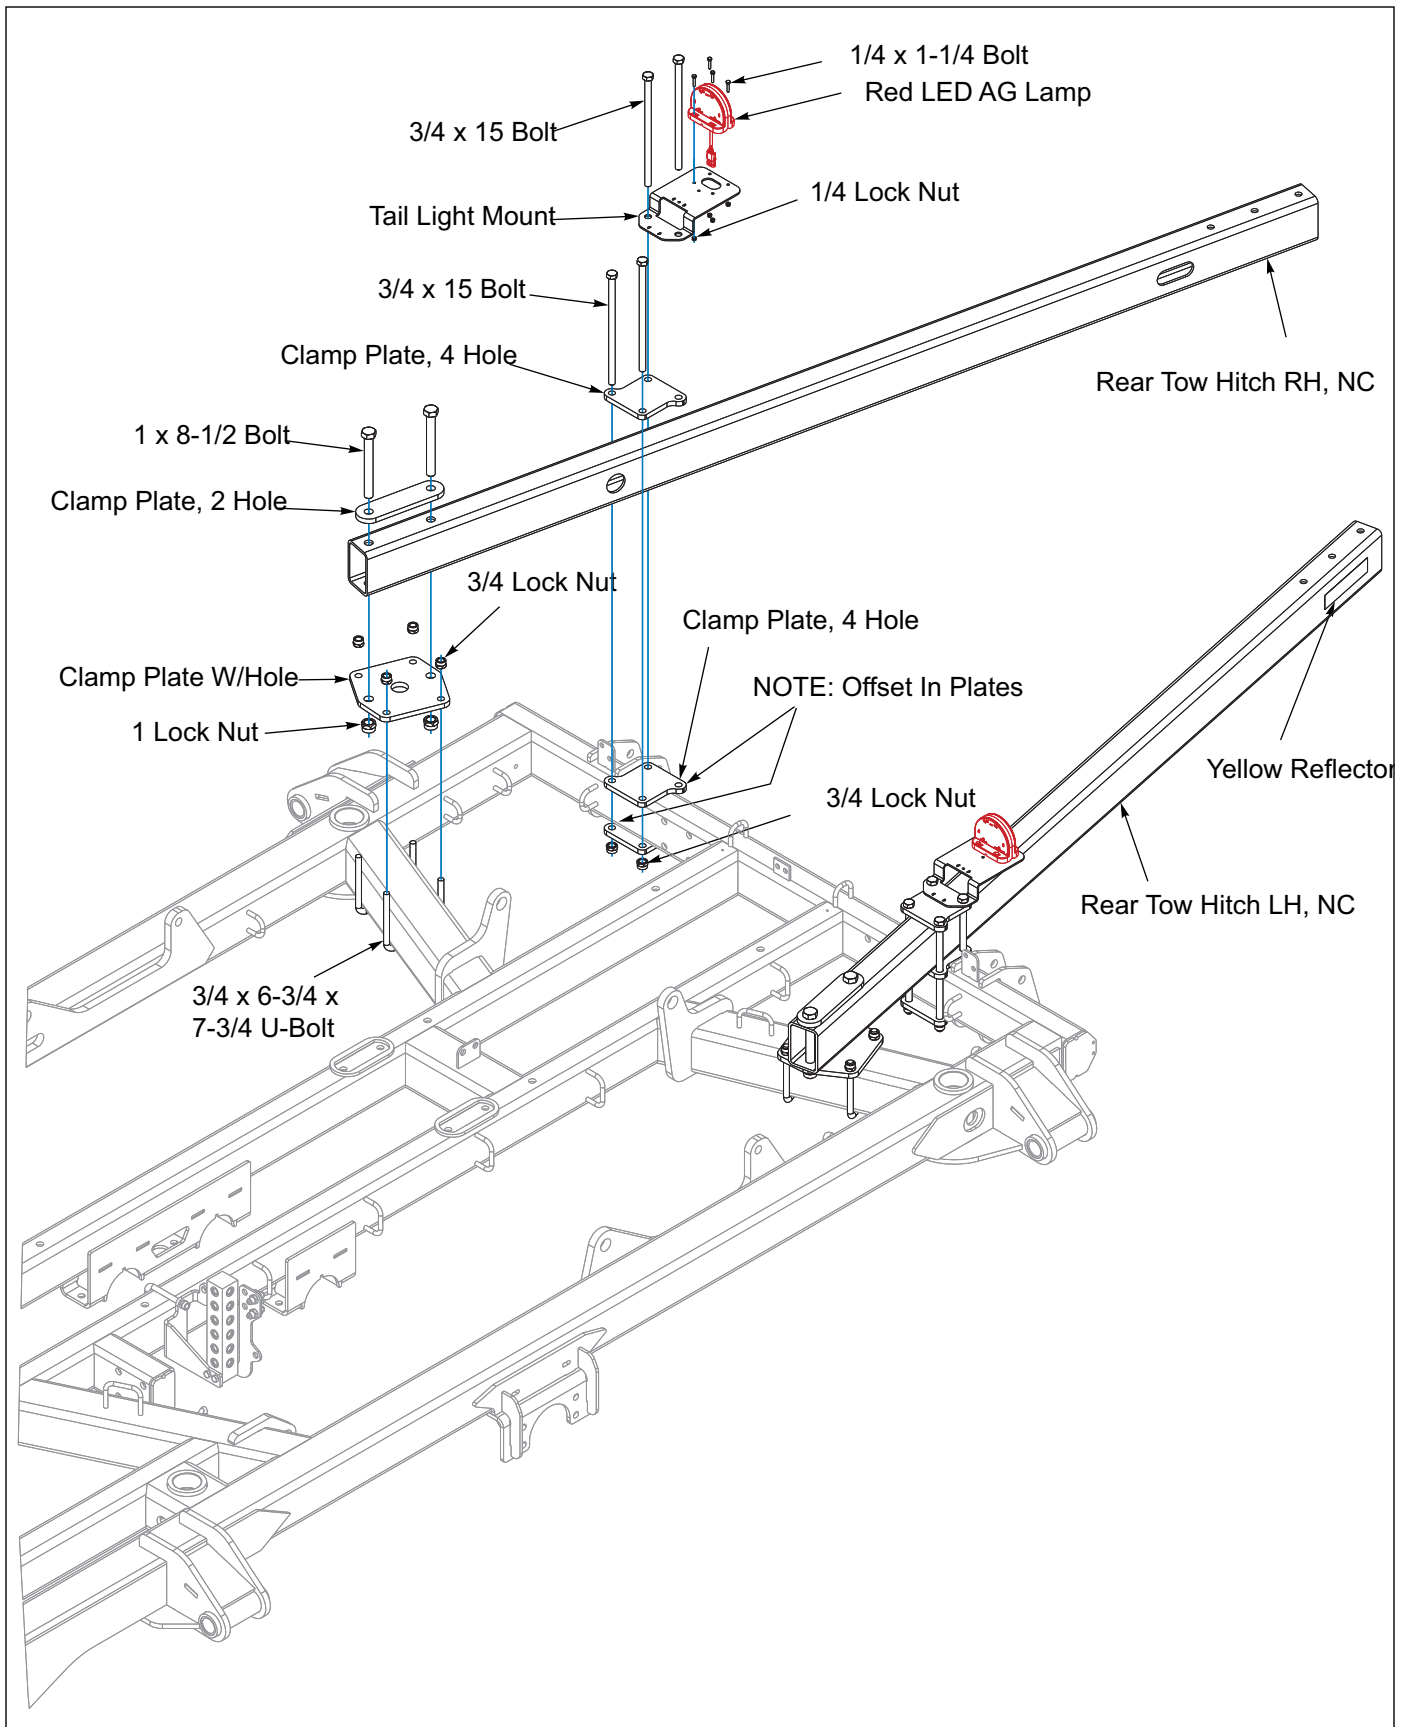
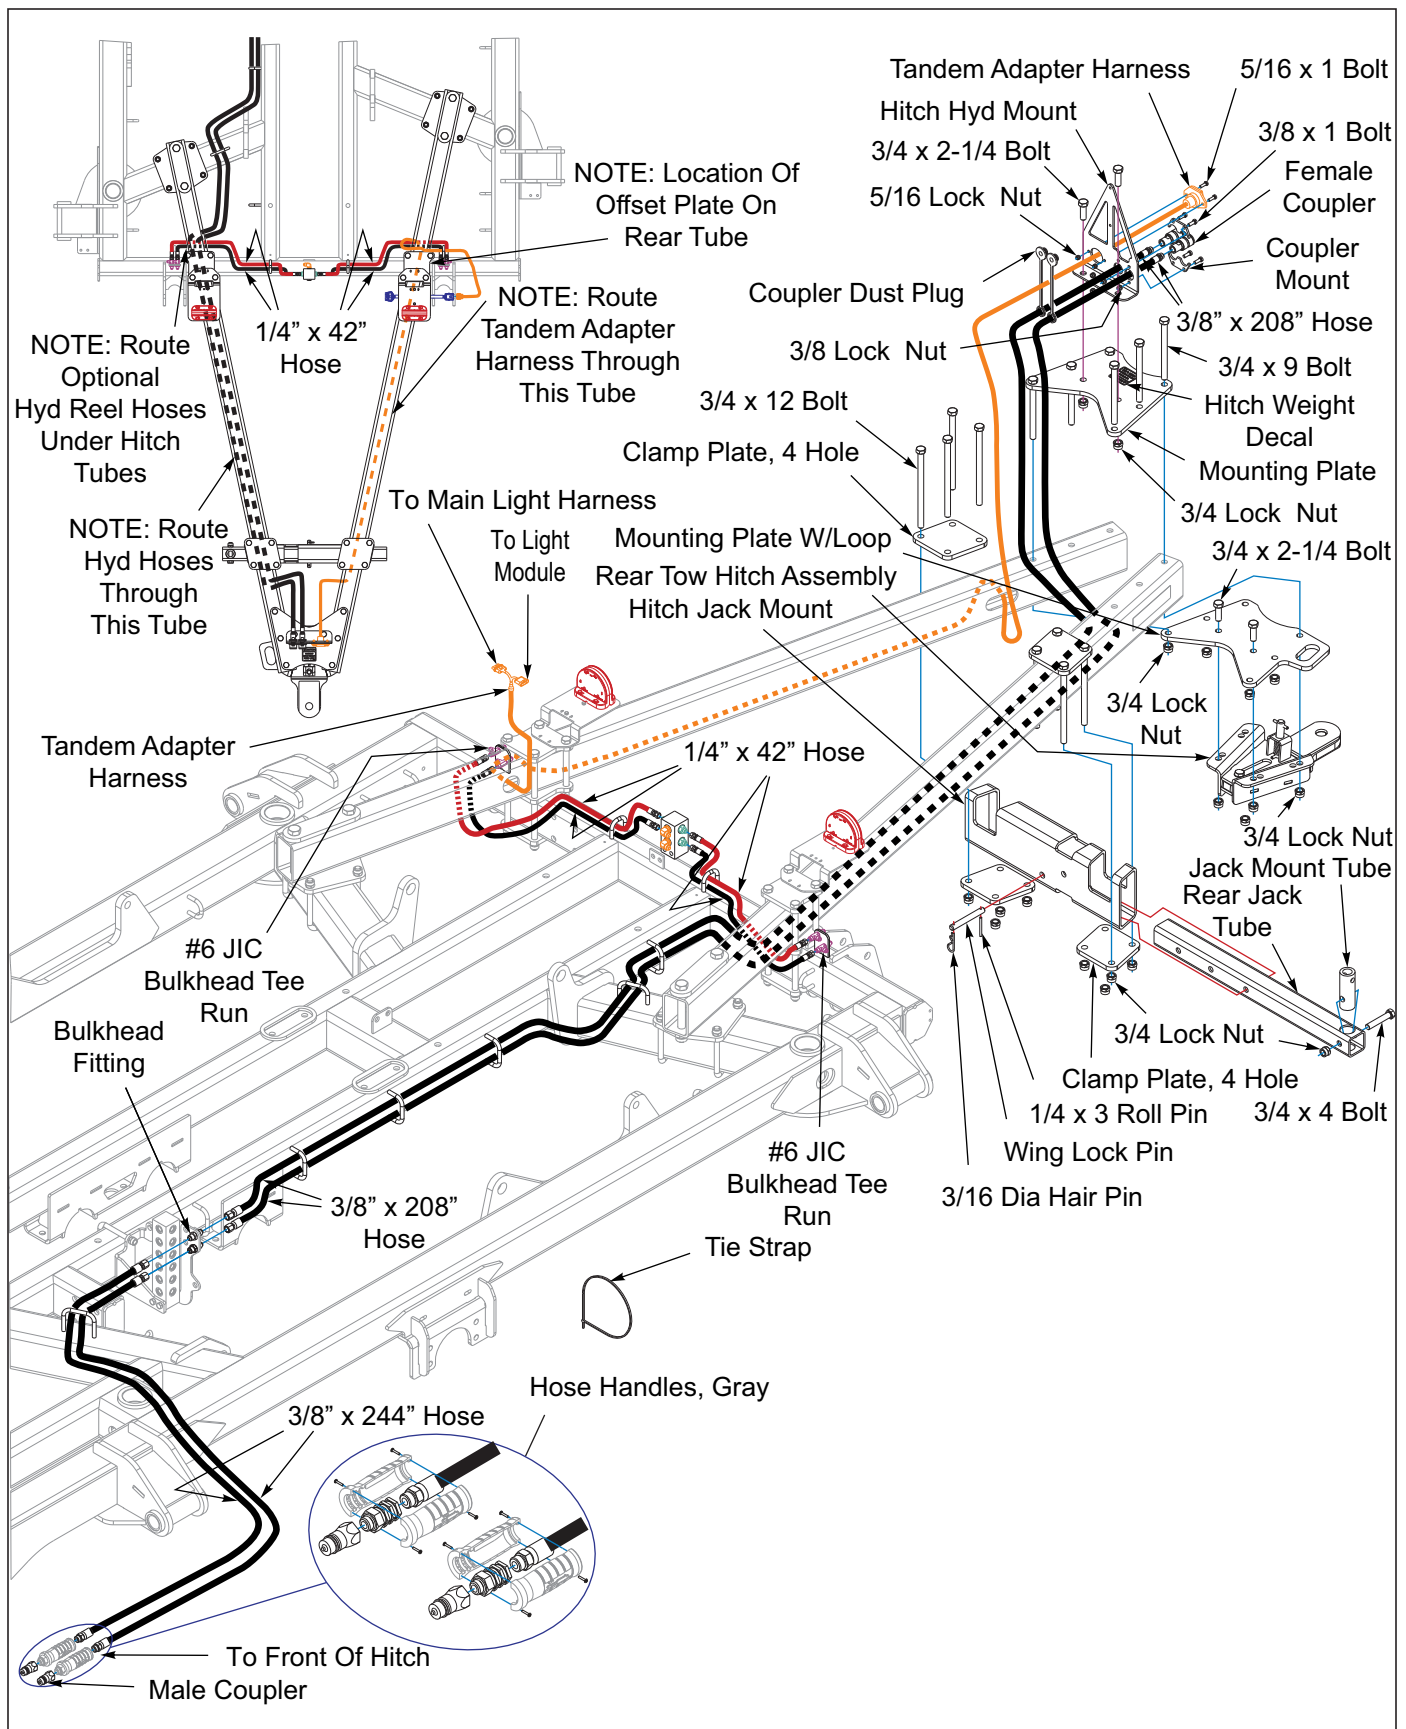
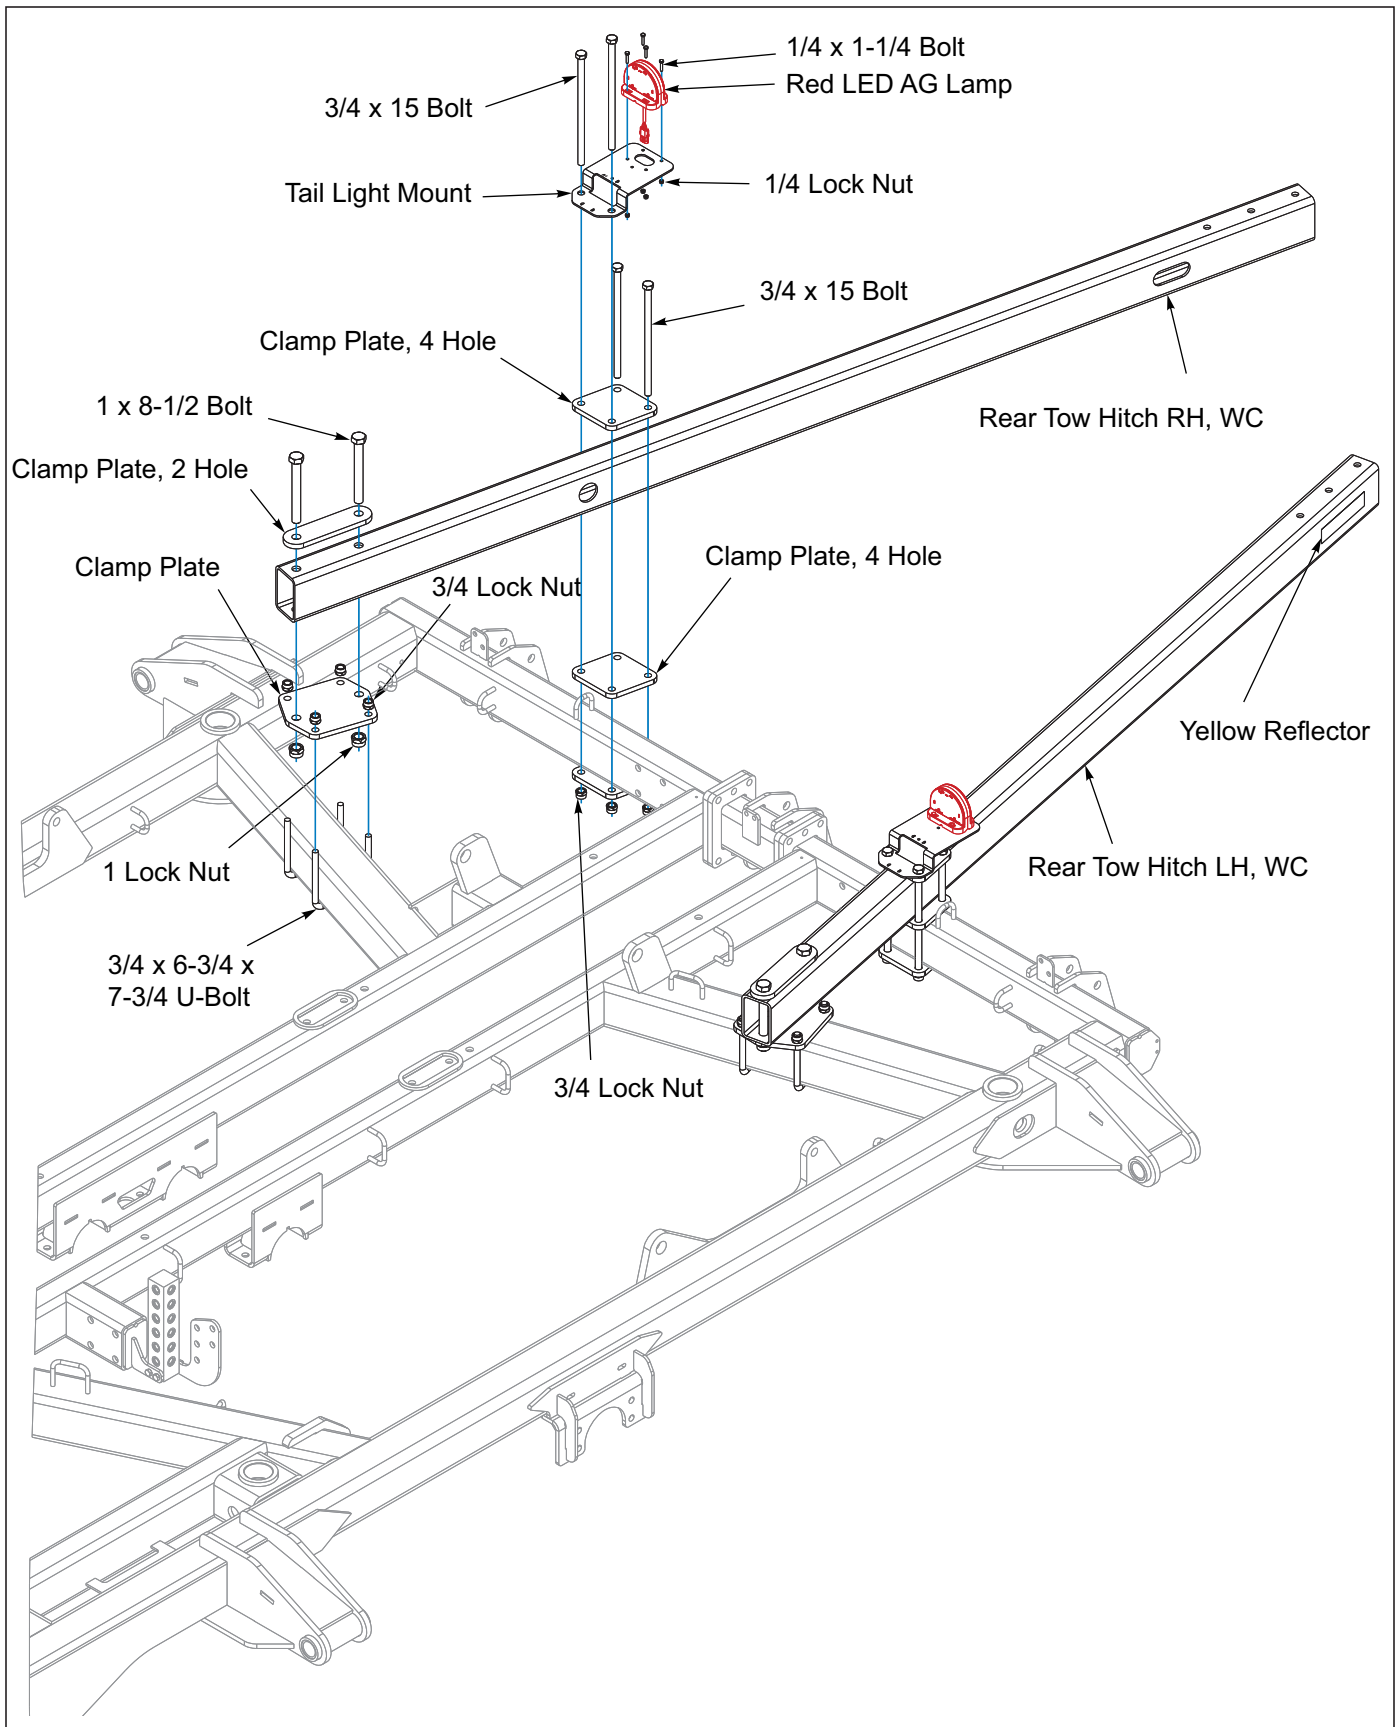
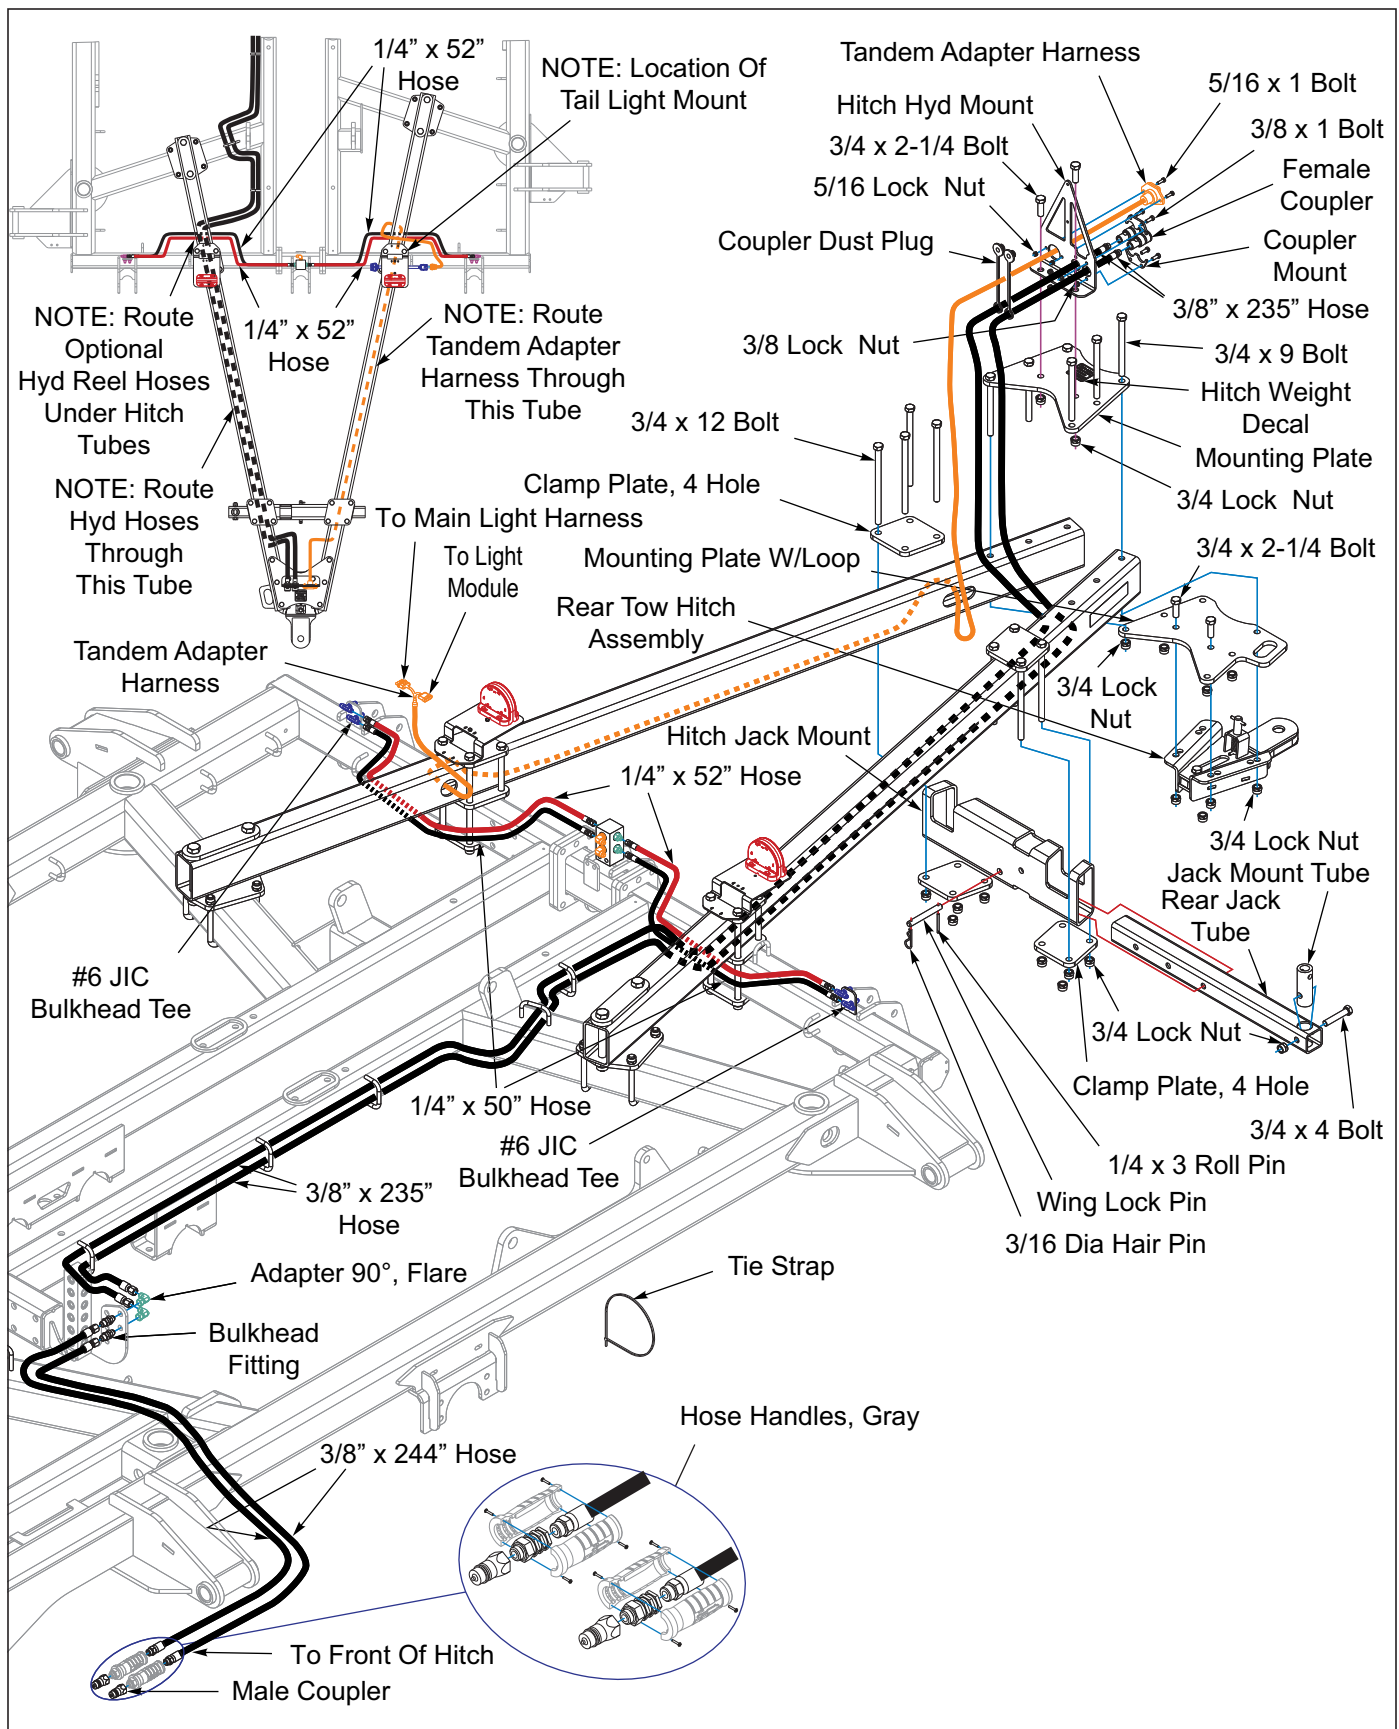

Figure 3-62: Rear Tow Hitch Installation 7531-23'-26'-29' (1 of 2)
Figure 3-63: Rear Tow Hitch Installation 7531-23'-26'-29' (2 of 2)
Figure 3-64: Rear Tow Hitch Installation 7531-23'-35' (1 of 2)
Figure 3-65: Rear Tow Hitch Installation 7531-32'-35' (2 of 2)
The red led ag lamps will need to be removed from rear tube of center frame. The red led ag lamps will be re-installed to the new tail light mounts as shown 7531-23'-26'-29' See Figure 3-64, 7531-32'-35' See Figure 3-65.
Models 7531-23'-26'-29' uses clamp plates, 4 hole that has an offset. position offset in position shown, See Figure 3-62 and See Figure 3-63.
For the following steps, Models 7531-23'-26'-29' See Figure 3-62 and See Figure 3-63, Models 7531-32'-35' See Figure 3-64 and See Figure 3-65.
14. Install bulkhead fittings to manifold plates. Route hydraulic hoses on left side of hitch, through tube and follow hose loops to front as shown. Connect hoses as shown, **Note that Models 7531-23'-26'-29'**, if equipped with hydraulic reels, will require different bulkhead fittings on the center frame arms, and the hoses from the aluminum manifold to the center frame arms will need changed out for 1/4 x 42" hoses that are supplied with the tow hitch, See Figure 3-62 and See Figure 3-63 Models 7531-32'-35' See Figure 3-64 and See Figure 3-65.